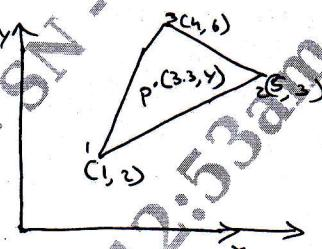

Fig.Q5(b)
b. The nodal co-ordinates of a triangular element are shown in Fig.Q5(b). The X-coordinate of point P is 3.3 and shape function $N_1 = 0.3$. Determine N_2 , N_3 and Y – coordinate of point P.